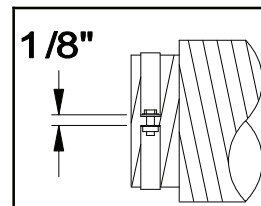

Figure 24
8. Tighten the inner pipe clamp bolts until both clamp halves are within  $\frac{1}{8}$ " of each other at each end (Figure 24).